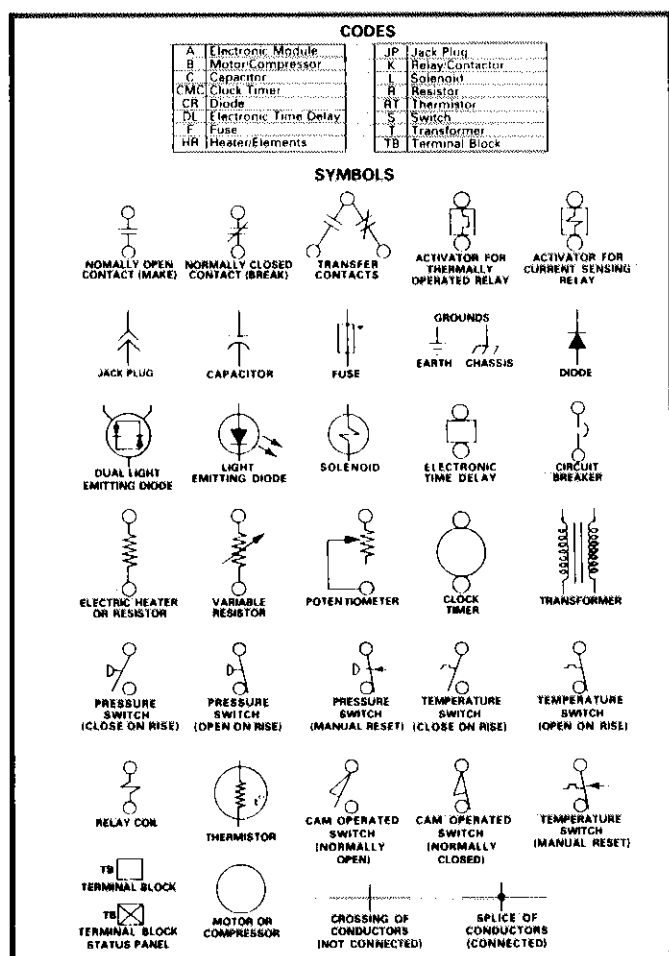

FIGURE 42
- 2 - The graphic symbols for components and code lettering used are recommended by the "International Electrotechnical Commission" (IEC) as selected from the "American National Standard" (ANSI) and "IEEE Standard" (Institute of Electrical and Electronics Engineers) of Graphic Symbols for Electrical and Electronics Diagrams. Refer to Figure 42 for code and symbol identification.